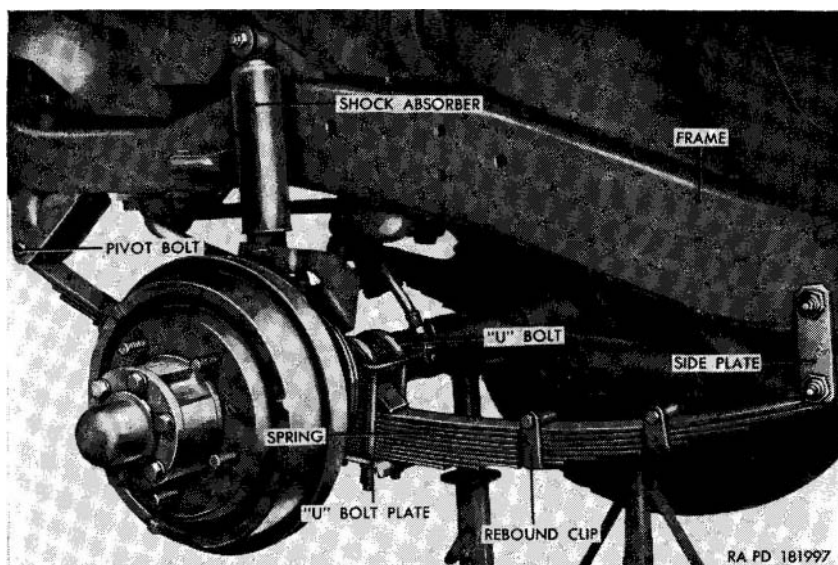

Figure 145.1. (Added) Front spring and shock absorber M170—installed.
a.1. (Added) *Springs M170*. Both the front and rear spring assemblies are of the semi-elliptic-type with wrapped eyes on the two top leaves. The front spring (fig. 145.1) is a 10 leaf spring and the rear spring is an 11 leaf spring. One center bolt and four rebound clips secure the spring leaves of each spring assembly. Each spring assembly is suspended lengthwise from the frame by a shackle at the rear and a pivot bolt at the front. The pivot bolts ride in bushing-type eye bearings while the shackles are mounted in internally and externally threaded bushing-type shackle bearings. U bolts and U-bolt plates secure each spring assembly to its respective axle.